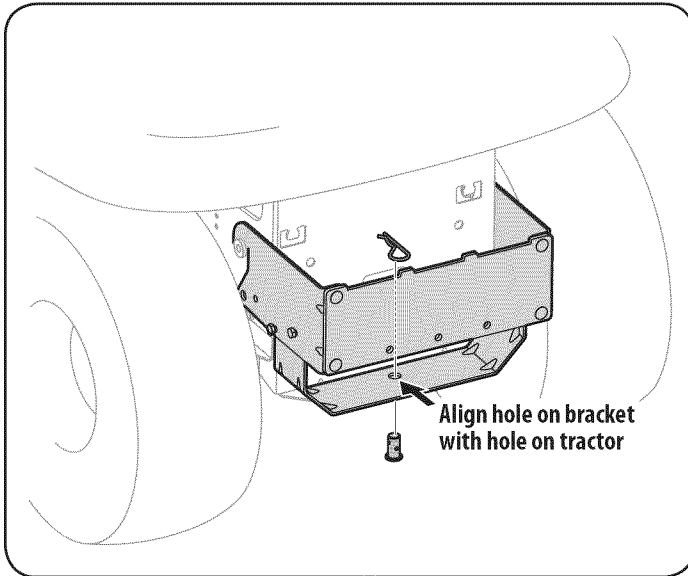

Figure 9
2. Install the clevis pin (711-0309A) from hardware pack 689-00087 into the tractor's hitch and the assembly's hitch support and secure with a hairpin clip (710-0117). See Fig. 9.